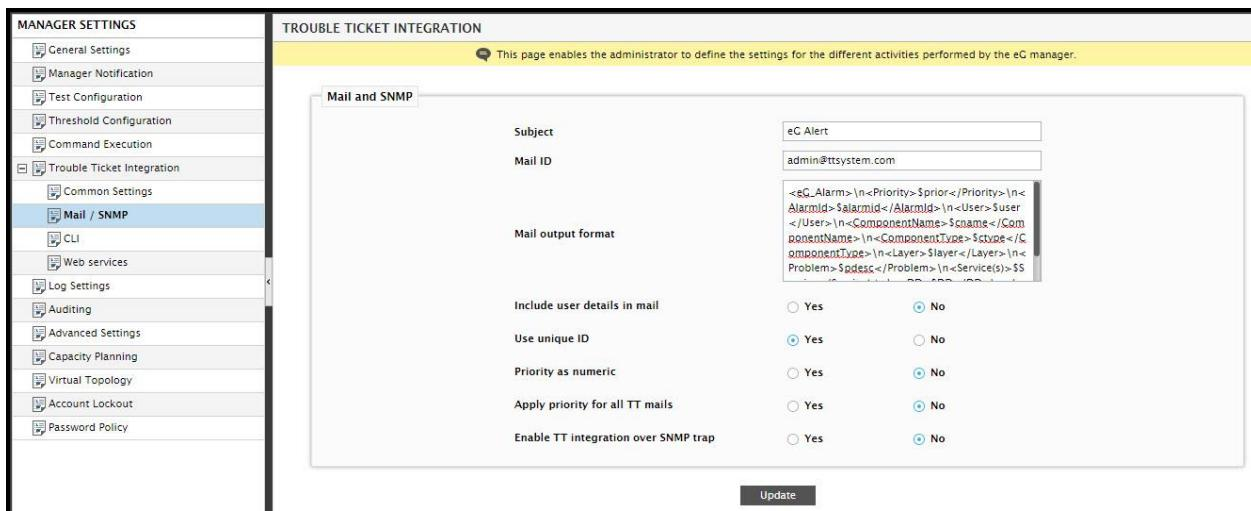

Figure 3.3: Enabling TT integration over SNMP traps
- When Figure 3.3 appears, expand the **Trouble Ticket Integration** node in the **MANAGER SETTINGS** tree-structure in the left panel, and select the **Mail / SNMP** sub-node within.